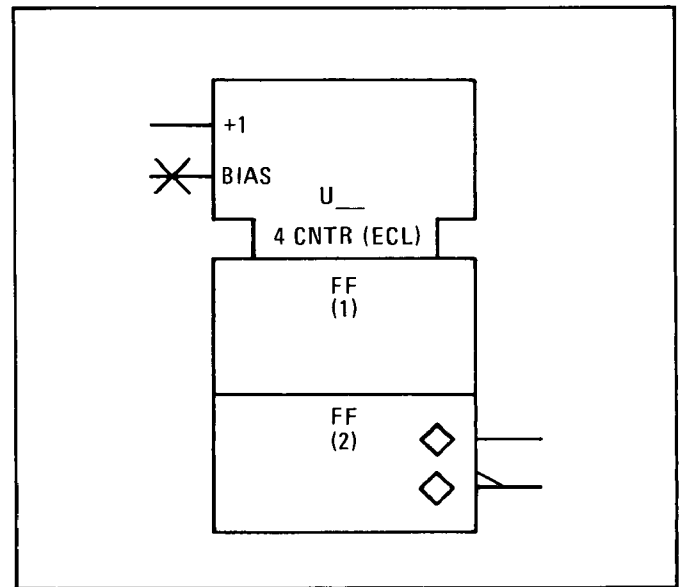

Figure 8-2. 4 Counter Symbol
b. 4 Counter. A 4 counter symbol is shown in Figure 8-2. The counter consists of two flip-flops which are internally connected to form a divide-by-four counter. Each time the +1 input goes positive the contents of the counter are incremented one count. The result is that the frequency of the signal at the output is one fourth of that at the +1 input.